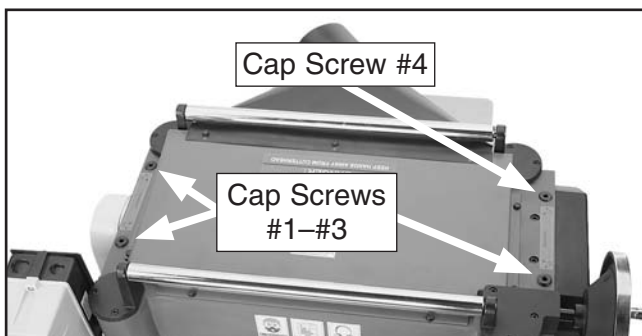

Figure 48. Roller spring tension adjustment cap screws.
2. Adjust tension cap screws #1–#3 so that they protrude $\frac{1}{8}$ " above the head casting, and adjust cap screw #4 so that it protrudes $\frac{5}{16}$ " above the head casting (see **Figure 48**).